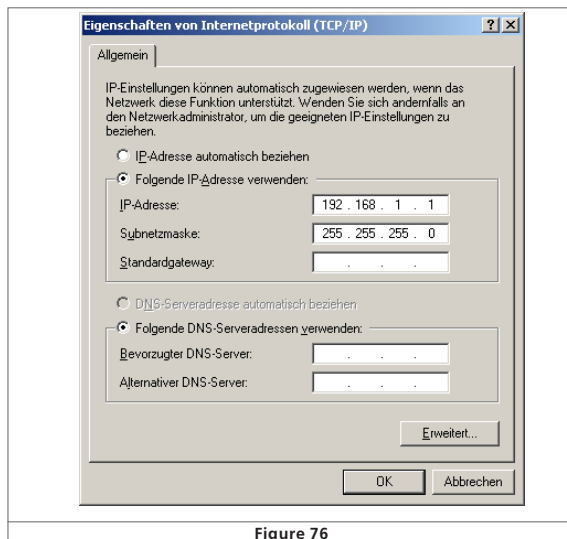

Figure 76
- Select "Use the following IP-address" and enter the value exactly as shown in Figure 76.